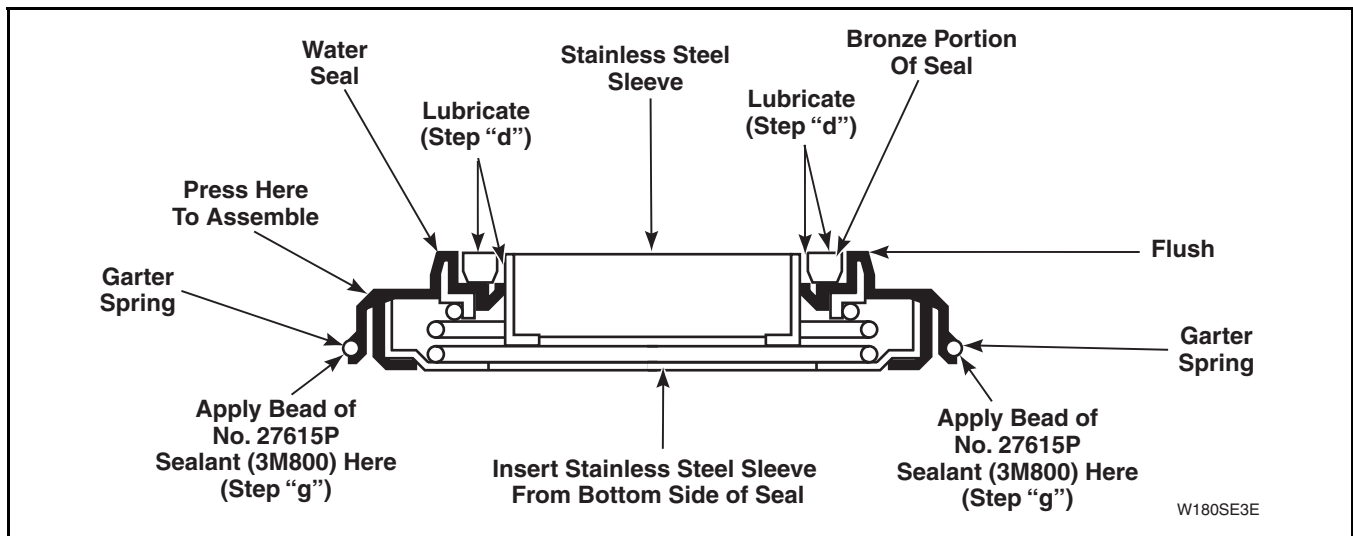

Figure 43
- Apply a light film of nonstaining petroleum jelly (such as Vaseline®) to bronze portion of water seal and to outer surface of stainless steel sleeve. Refer to *Figure 43*.
- Insert stainless steel sleeve into water seal from bottom of water seal. Refer to *Figure 43*, until stainless steel sleeve is flush with bronze portion of water seal.
- Carefully apply a small amount of No. 27615P Sealant (3M800) (obtain from local Parts Distributor) around outer edge of water seal and tub (area located just below garter spring). Refer to *Figure 43*.